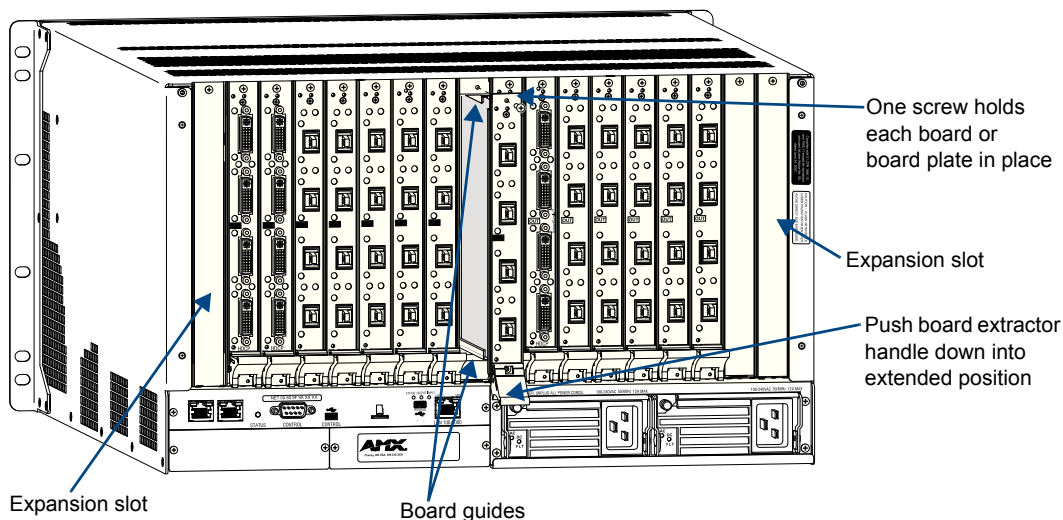
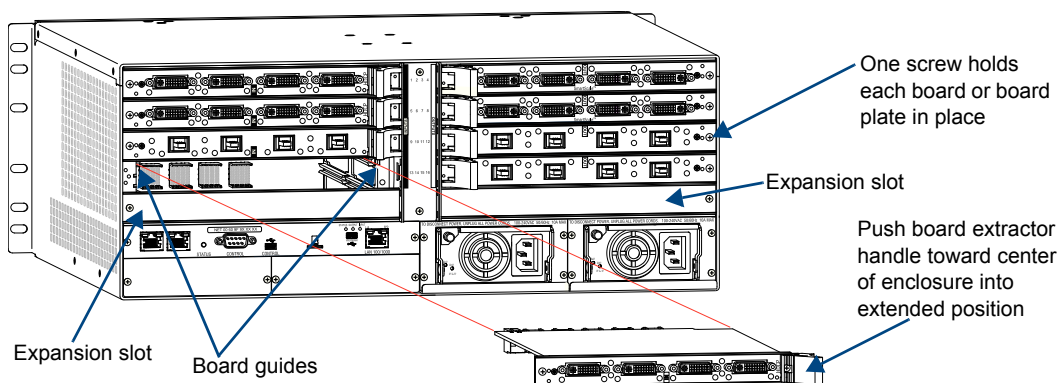

FIG. 125 Enova DGX 32 - Remove screw, push board extractor handle down, and then pull board straight out
FIG. 126 Enova DGX 8 (16/64) - Remove screw, push extractor handle right (input) or left (output), pull board straight out
5. **Remove blank board plate** – Remove the screw that holds the board plate in place (for Enova DGX 32, see FIG. 125; for Enova DGX 8/16/64, see FIG. 126). Pull the plate out of the board slot opening (the tab on the end of the board plate fits in a slot near where the ejector handle would otherwise go). The plate consists of an aluminum sleeve with a black metal piece, which slides in and out of the sleeve, and an EMI (Electromagnetic Interference) gasket.
Remove current board – Remove the pan head screw that holds the board in place (for the Enova DGX 32, see FIG. 125; for the Enova DGX 8/16/64, see FIG. 126). Push on the board's extractor handle as far as it will go (about a 45° angle). With the handle extended, carefully pull the board straight out of the board slot. Place the board in an ESD approved static shield bag and set aside.
AIE Boards can only be installed in an expansion slot (FIG. 125 and FIG. 126).
7. **Install board in Enova DGX 32** – With the board's extractor handle in the extended (unlocked) position, line up the board's edges on the board guides that are along the top and bottom of the board slot (FIG. 125).
Install board in Enova DGX 8/16/64 – With the board's extractor handle in the extended (unlocked) position, line up the board's edges on the board guides that are along the left and right of the board slot (FIG. 126). Note that input boards have board guides at the top of the slot and board guides for the output boards are at the bottom of the slot due to their reversed orientation in the enclosure.